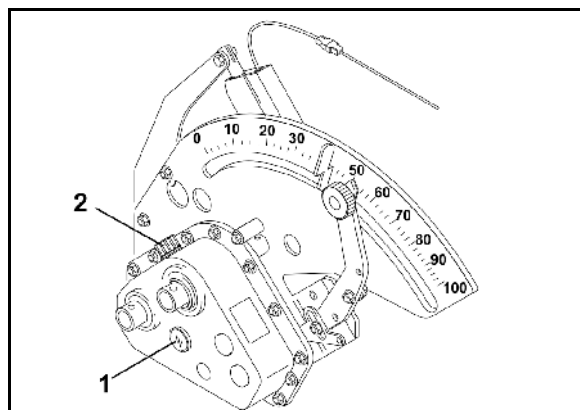

Fig. 42
2. The oil level must be visible inside the gauge glass (Fig. 42/1).
6. Fill the vario gearbox via the oil filler neck (Fig. 42/2) with gear oil up to the oil gauge glass (Fig. 42/1).
7. After filling cover the oil filler neck by using the cap (Fig. 42/2).